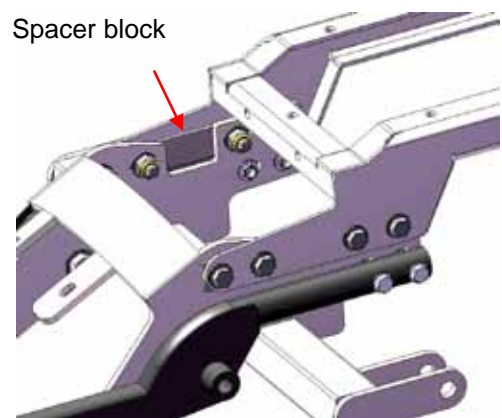

Figure 54
- a. Requires the supplied spacer plates to be installed between the tour box frame and the shock mount (both sides). Figure 54